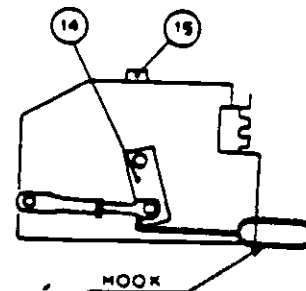
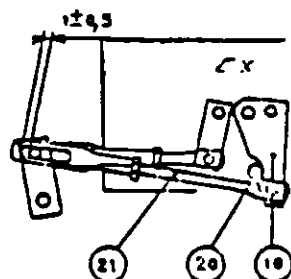

Fig. 13
Fig. 15
To test tripping of breaker by the release crank, place a wire hook as shown in Fig. 13 and hold while applying a momentary signal of 12-18 volts D.C. to the tripping actuator EX. When release unlatches, slowly allow release crank to withdraw until breaker trips open.
- a) Adjustment. Insert wire hook as shown in Fig. 13 and hold release crank (14) while applying momentary signal of 9 - 18 volts DC to the tripping actuator EX. When release unlatches, slowly allow release crank to withdraw to tripped position shown in Fig. 15. With the release in the tripped position and the crank (10) resting against stop (20), adjust link (21) to allow  $1 \pm 0.5$  mm ( $0.039 \pm 0.020$  inch) clearance. Press the local tripping pushbutton (23) while adjusting screw (24) to effect resetting of the release. A distinct click will be heard when the release crank latches. Unscrew one turn to insure a margin of safety in resetting.